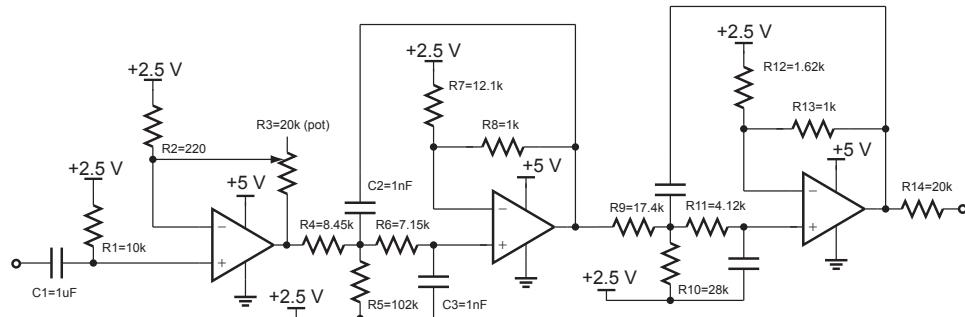

Figure 12: Schematic of the active low-pass filter.
Fig. 12 shows the schematic of the active LPF circuit. The filter has a cut-off frequency of 15 kHz and was designed with the TI WEBENCH filter design tool.
1. Identify the gain stage in Fig. 12. What is the expression of its gain? Notice the +2.5 V bias does not affect this result, rather it simply shifts the bias of the overall amplifier since a single 5 V supply (battery) is used vs a dual-rail (both positive and negative) supply.
1. Identify the active LPF portion of the circuit in Fig. 12. The overall filter consists of 2 low pass filters. What is the order of the overall filter and how is it determined from the schematic?
3. To measure just the filter response, disconnect R4 and R14 from the circuit (Fig. 12). Input a 3 Vpp signal in place of R4 and measure the output in place of R14. Tabulate and plot the frequency response from 100 Hz to 50 kHz. What is the cutoff frequency of the filter?